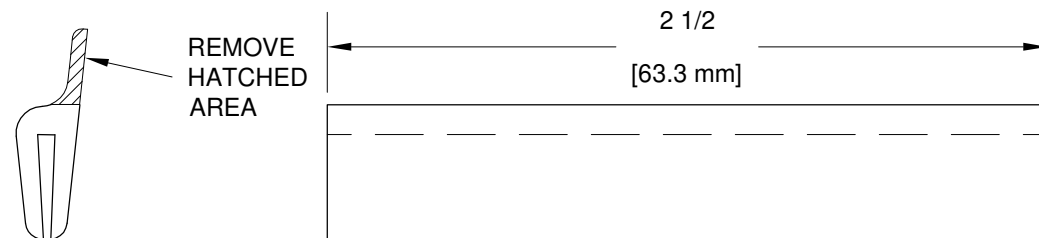

FIGURE 1: FUEL CRADLE PADS
Step 1: Make four F-1048E Fuel Cradle Pads out of rubber channel as shown in Figure 1.